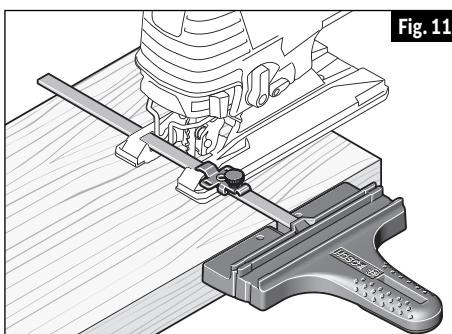

Fig. 11
1. The guide fence surface needs to be positioned ALONGSIDE the workpiece (Fig. 11).
4. Insert jig saw's plug into power source, hold the saw firmly, squeeze trigger and slowly push the saw forward (Fig. 11).